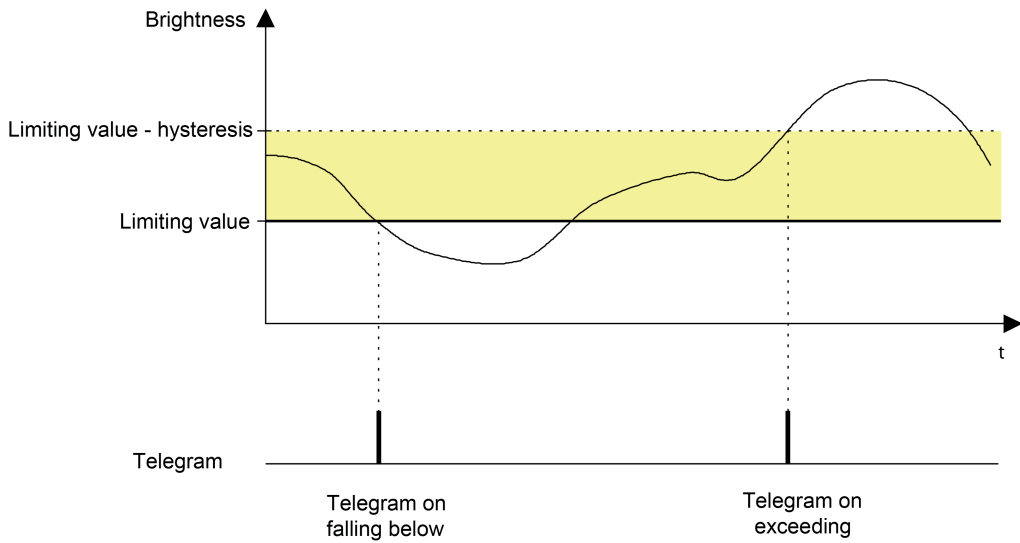

Figure 54: Example 2 of the limiting value definition
2. Brightness limiting value = Lower threshold (figure 54)